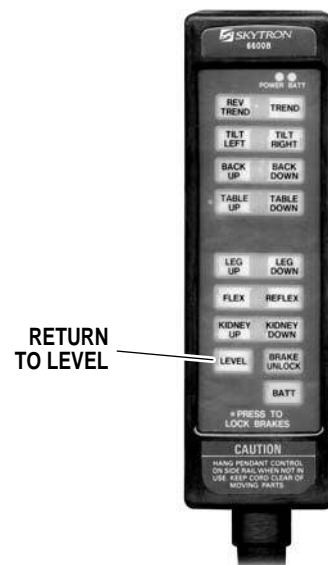

Figure 3-11. Return To Level
i. Return To Level. To return the table top to a level position, press the LEVEL button (figure 3-11).